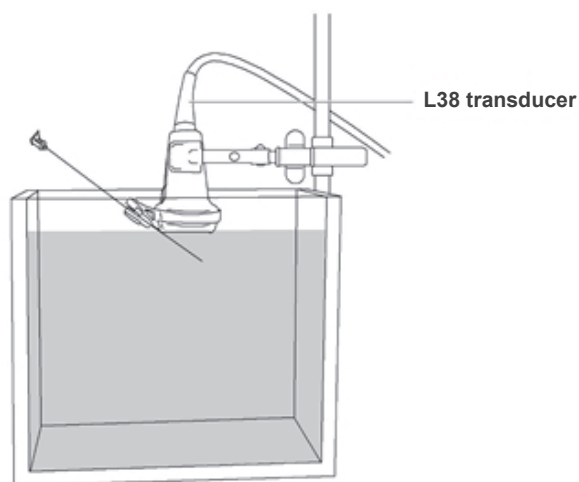

Figure 2 L38 Transducer with Needle in Test Fluid
- ▶ Tank filled with test object fluid (All World Scientific code 3480) or distilled water. See Figure 2, “L38 Transducer with Needle in Test Fluid” on page 9
- 7 Move the needle down into the tank of test fluid or distilled water until its ultrasound image is visible on the system display (see **Figure 2, “L38 Transducer with Needle in Test Fluid”** on page 9).